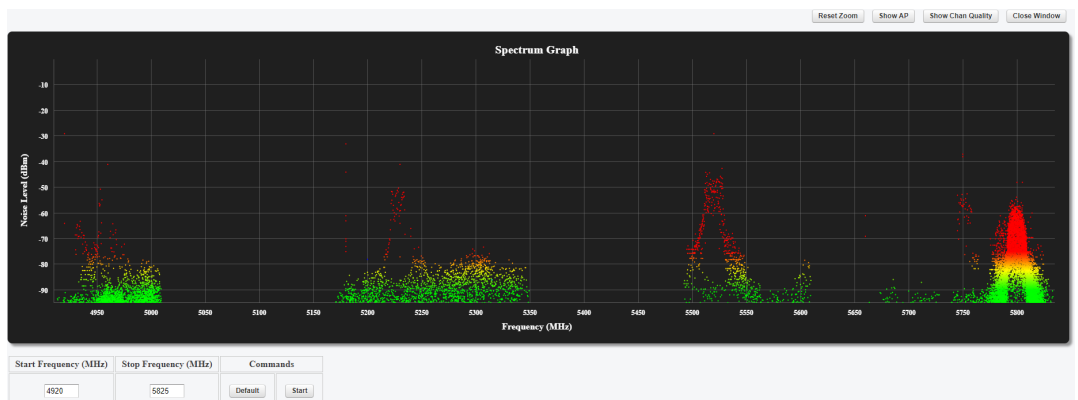

Figure 26. Spectrum Graph window (typical display)
- The **Spectrum Graph** window will open in a new web browser tab (Figure 26 (page 66)).